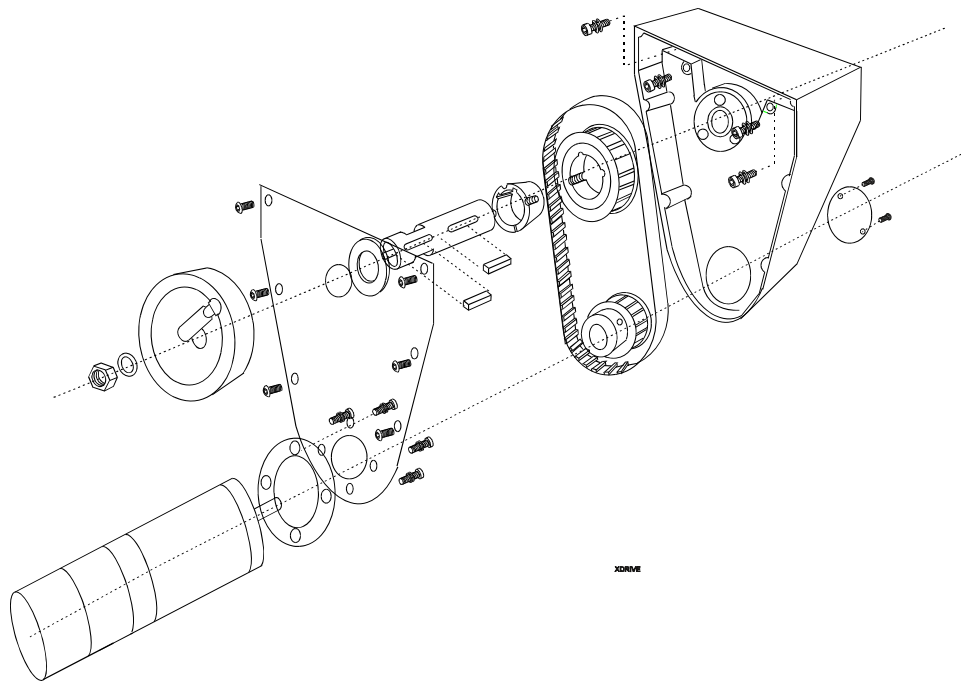
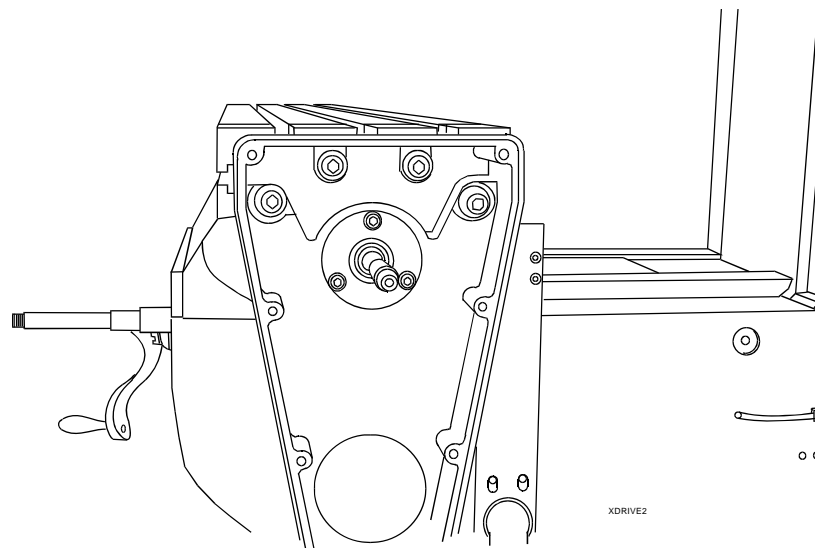

Figure 3-7, Exploded View of X-Axis Drive Assembly
Figure 3-8, Casting Installation
4. Remove the brass shim, P/N 66100413, which is taped to the housing. Set it aside; it will be used later. Refer to **Figure 3-7**, and **Figure 3-8**.